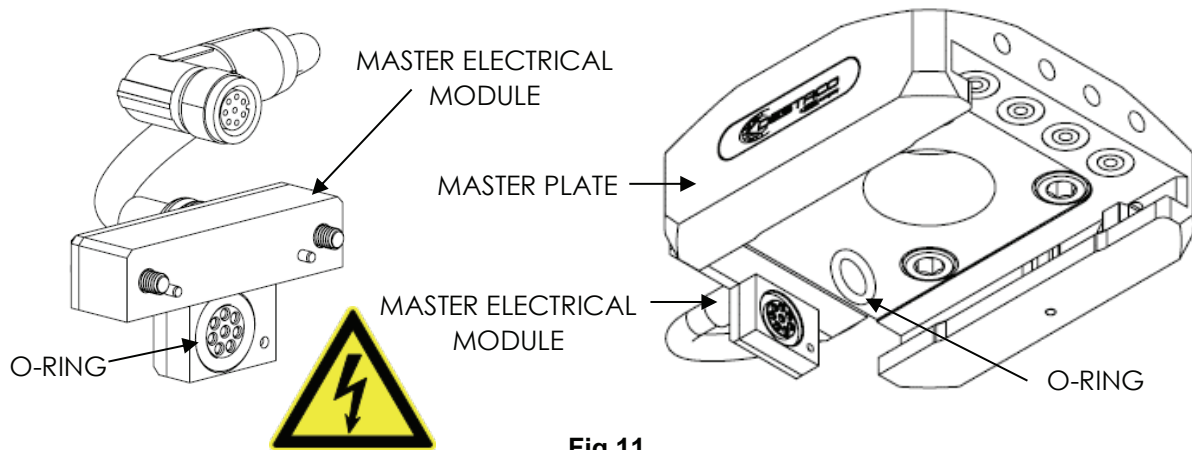

Fig.11
5. Place the new O-Ring in the seal groove of the electrical interface of the master module and press until it is fully seated (see Fig.11). Carefully remove any glue that squeezes out without contaminating the electrical contacts. No lubrication is required.